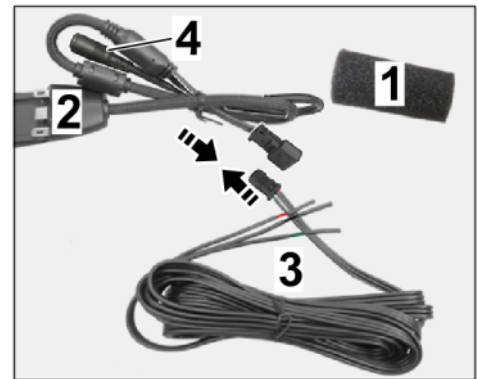

Figure 12
- 3.1.2 Connect plug connection (3-pin) (⇒ *Figure 12 -Arrow-*).